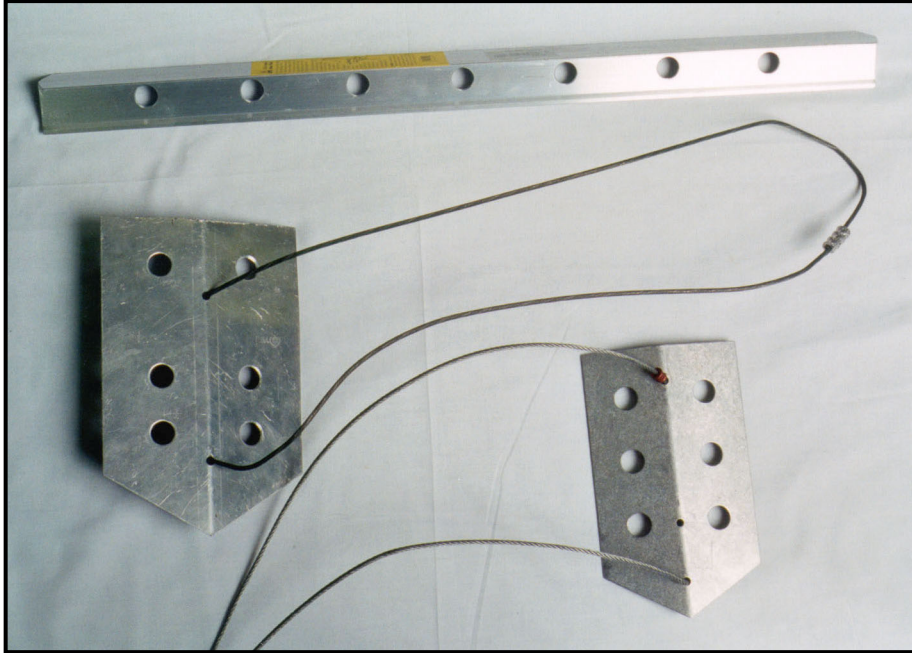

Figure 3-28. Snow anchors, flukes, and pickets.
f. **Wired Snow Anchors.** The wired snow anchor (or fluke) provides security for climbers and equipment in operations involving steep ascents by burying the snow anchor into deep snow (Figure 3-28, page 3-26). The fluted anchor portion of the snow anchor is made of aluminum. The wired portion is made of either galvanized steel or stainless steel. Fluke anchors are available in various sizes—their holding ability generally increases with size. They are available with bent faces, flanged sides, and fixed cables. Common types are:
g. **Snow Picket.** The snow picket is used in constructing anchors in snow and ice (Figure 3-28, page 3-26). The snow picket is made of a strong aluminum alloy 3 millimeters thick by 4 centimeters wide, and 45 to 90 centimeters long. They can be angled or T-section stakes. The picket should be inspected for bends, chips, cracks, mushrooming ends, and other deformities. The ends should be filed smooth. If bent or cracked, the picket should be turned in for replacement.